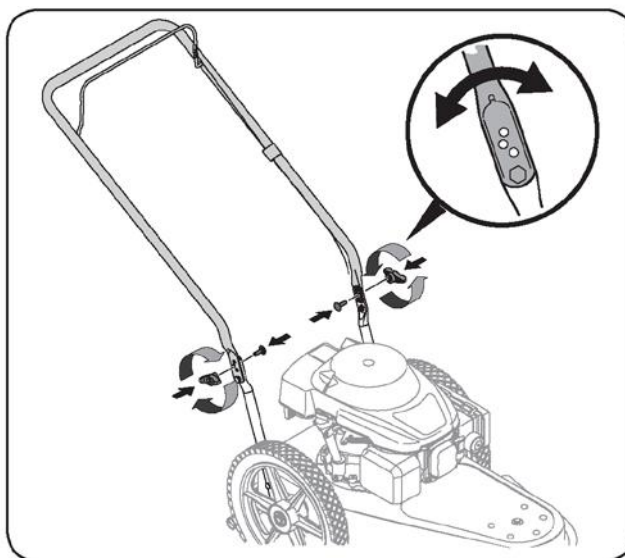

Figure 3-2
3. Rotate the upper handle forward or backward so that it moves to any of the three positions. Connect the upper and lower handles securely using carriage screws and the airfoil knob removed in step 1. See figure 3-2.